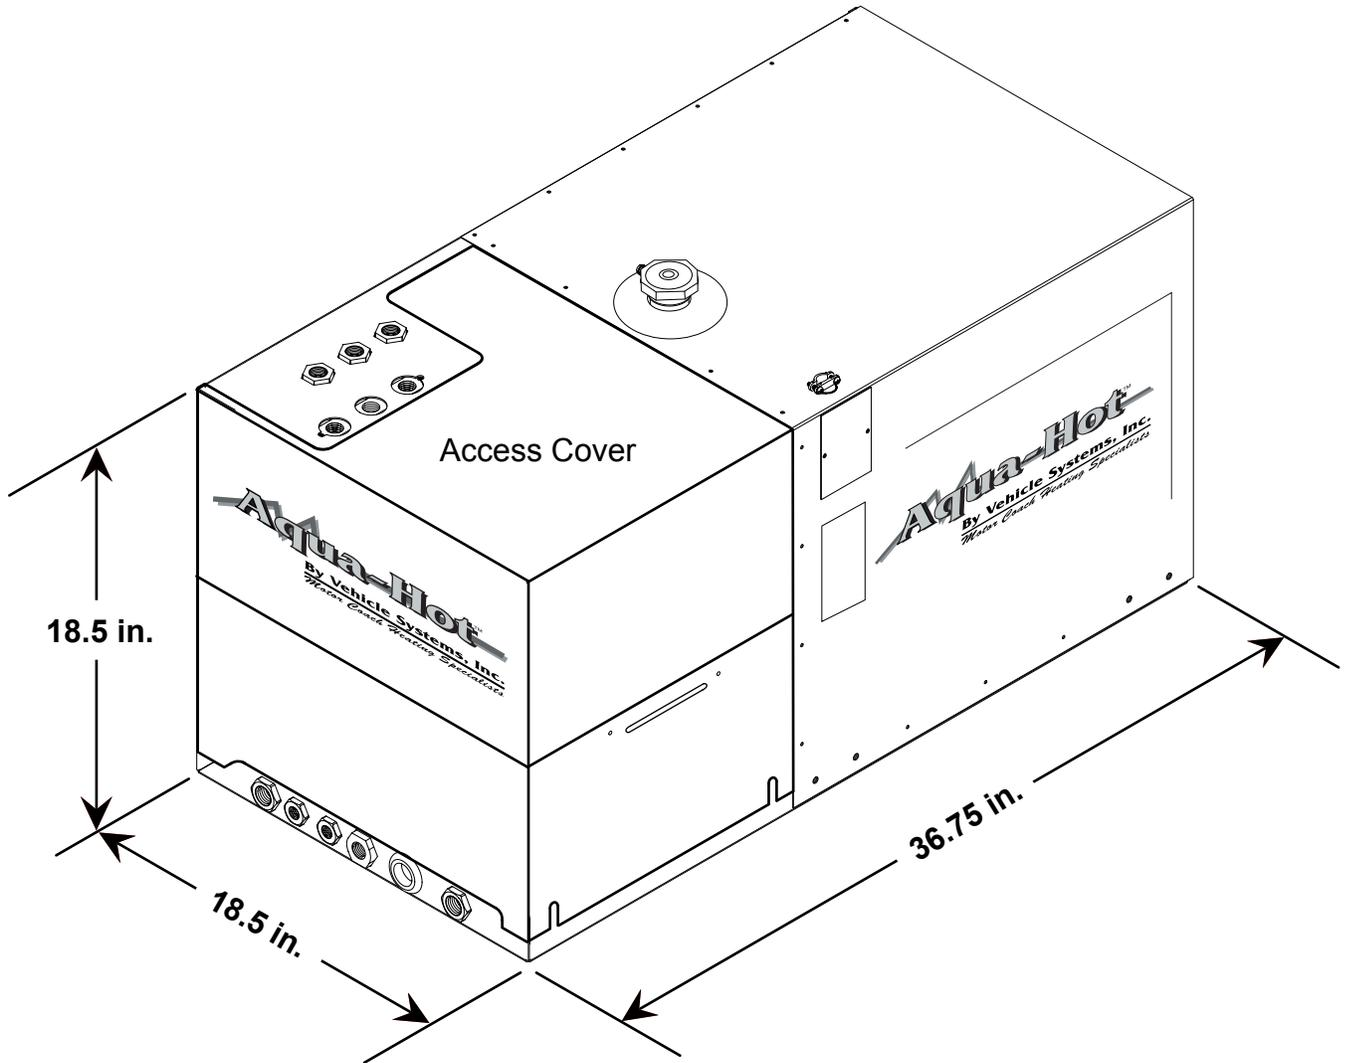

Figure 5
- Overall Aqua-Hot Dimensions; reference Figure 5.